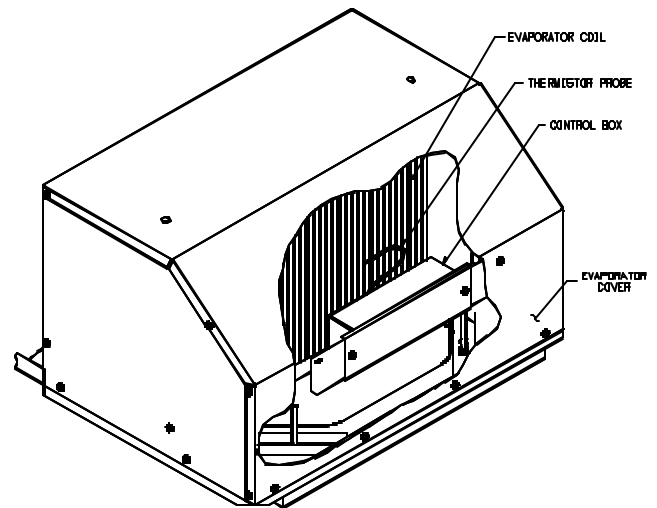

FIGURE 2
7. Insert the evaporator freeze sensor between evaporator fins near the bottom center of the evaporator and between the bottom two tubes (See Figure 2). Insert straight in until contacting the staggered tube directly in back of the insertion point. When contact has been made, elevate the exposed end of the sensor approximately 45 degrees, then continue insertion at a 45 degree angle until the sensor is completely embedded into the evaporator.
Insert the evaporator freeze sensor between evaporator fins near the bottom center of the evaporator and between the bottom two tubes (See Figure 2). Insert straight in until contacting the staggered tube directly in back of the insertion point. When contact has been made, elevate the exposed end of the sensor approximately 45 degrees, then continue insertion at a 45 degree angle until the sensor is completely embedded into the evaporator.